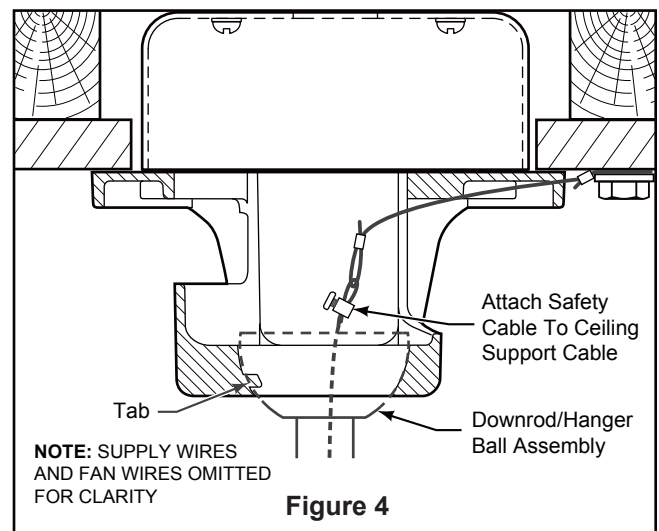

Figure 4
4. Loosen the two set screws and locking nuts in the downrod support of the motor assembly. Route the brown, blue, red, gray and yellow wires and safety cable through the downrod. (Figure 4)
4. Carefully lift the fan and seat the downrod/hanger ball assembly onto the hanger bracket that was just attached to the outlet box. Be sure the groove in the ball is lined up with tab on the hanger bracket. (Figure 4)
5. Attach the safety cable to ceiling support cable. Slide cable clamp and washer onto safety cable (from fan). Place the end of cable through the loop of ceiling support cable. Pull as much cable through loop as possible. Feed end of cable into clamp hole and firmly tighten screw. (Figure 4)
3. Connect wires using connectors as shown in Figure 4.